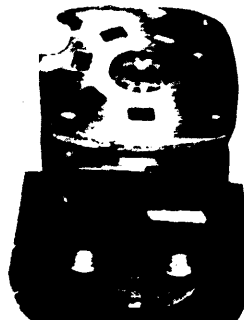
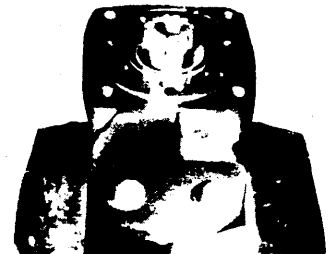

Fig. 5
Fig. 4
7. Slide output shaft assembly (6, 10, 11 and 12) into housing Fig. 4. (Shaft must be flush or slightly below housing.)
8. Place lightly oiled seal (14) in groove of housing.
9. Place wear plate (13) on top of drilled end of housing, insuring alignment of seven feed holes. See Fig. 5. Note alignment groove of wear plate to be in direction of ports.
1. Place housing with mounting flange end up on newspaper, install seal (4) in groove.
2. Install shim (3) into groove next to seal.
3. Push retaining ring (2) into position.
4. Place housing (5) in vise as shown in Fig. 4 with groove side up clamping at ports.
5. Place thrust bearing (10) on shaft (11) followed by the seal carrier assembly (6) with large diameter of seal carrier towards thrust bearing.